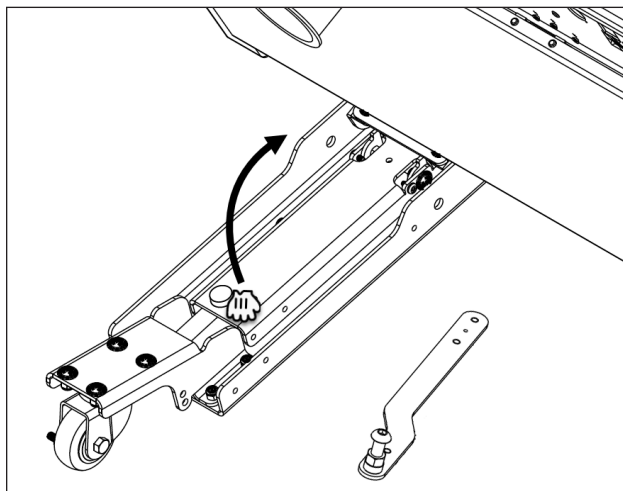

Figure 30: Raise Pivot Arm (Left Caster Base)
5. Grab and lift up on the rear of the left caster base pivot arm to raise that side of the table off the floor. Refer to **Figure 30**. Again, the tabletop should be pushed up flush against the rear of the display cabinet to be secured in place by the pivot arms.